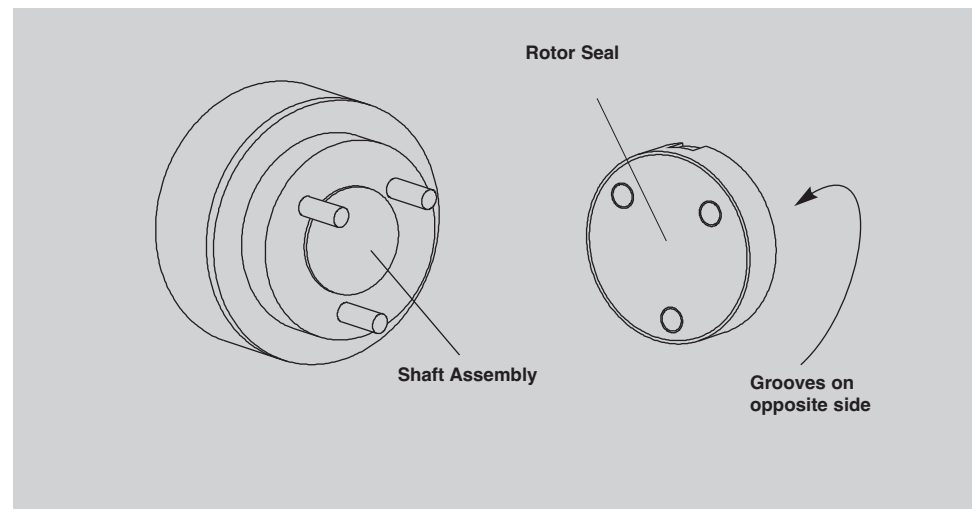

Fig. 3: Correct rotor seal orientation.
5. Mount the new rotor seal with the grooves facing the stator. The three pins on the shaft assembly will fit into the mating holes in the rotor seal (See Figure 3).